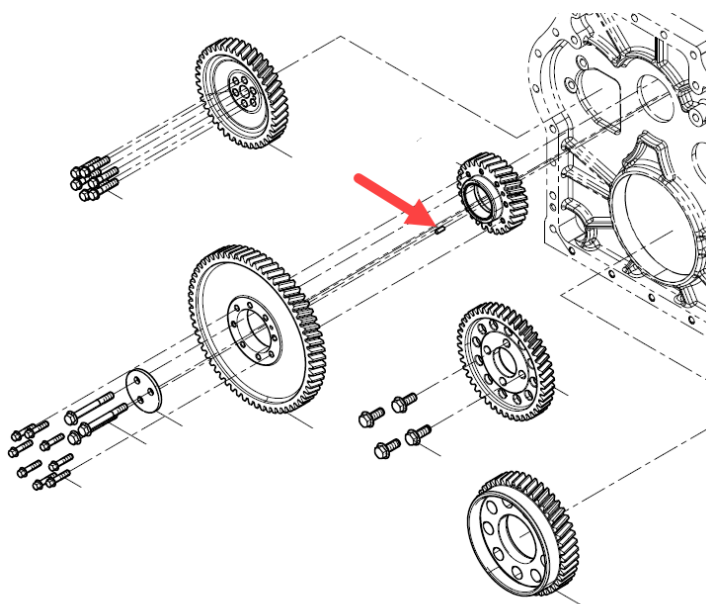
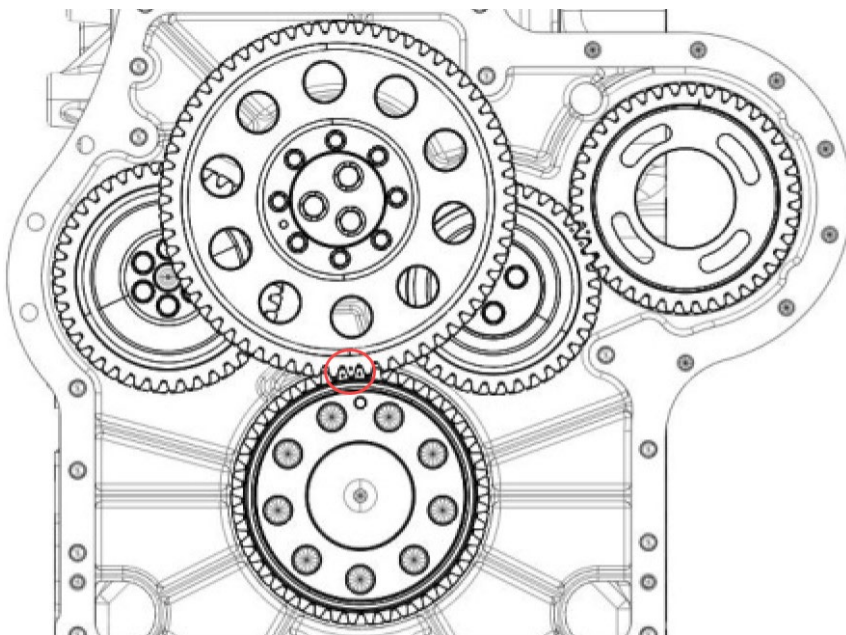

Figure 123.
Figure 124.
12. Install the dowel pin (Figure 123) to the idler gear that was previously installed.
13. Insert the big idler gear onto the dowel pin on the previously installed smaller idler gear (Figure 123). Ensure to place the timing mark of the big idler gear between the two-timing marks of the crankshaft timing gear (Figure 124).